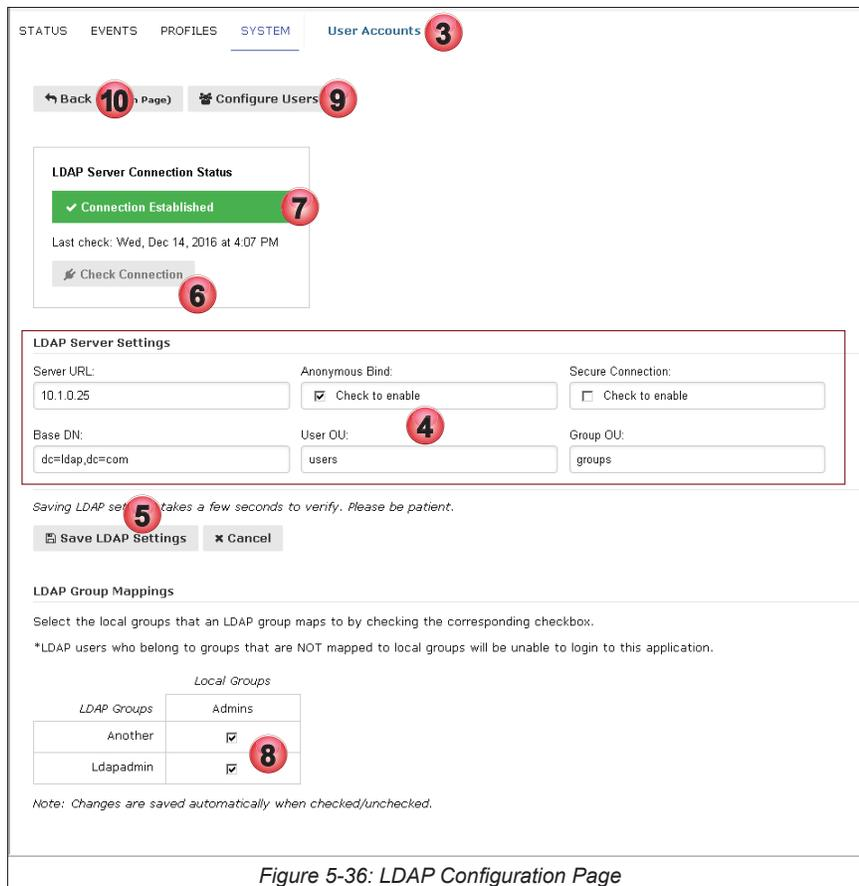

Figure 5-36: LDAP Configuration Page
3. The User Accounts page for configuring LDAP opens, see Figure 5-36.